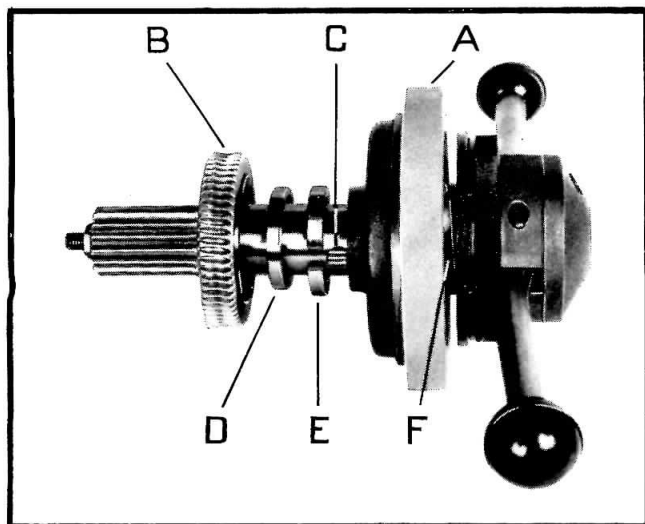

FIG. 10
2. Loosen the 4 screws which hold the flange (A) Fig. 10 of the power feed, CAUTION: If the spring is not damaged the flange will turn out sharply due to the tension of the spring.
4. Remove the helical wheel (B) towards the pinion and remove the 2 engaging pins (C), the ring (D) and the 2 half-moons (E).
5. Remove the flange (A) carefully (the broken spring may jump out at any time).
6. Remove the quill return spring (F). Note that the inside limit of the quill return spring is fixed to the collar with a screw which has to be removed.